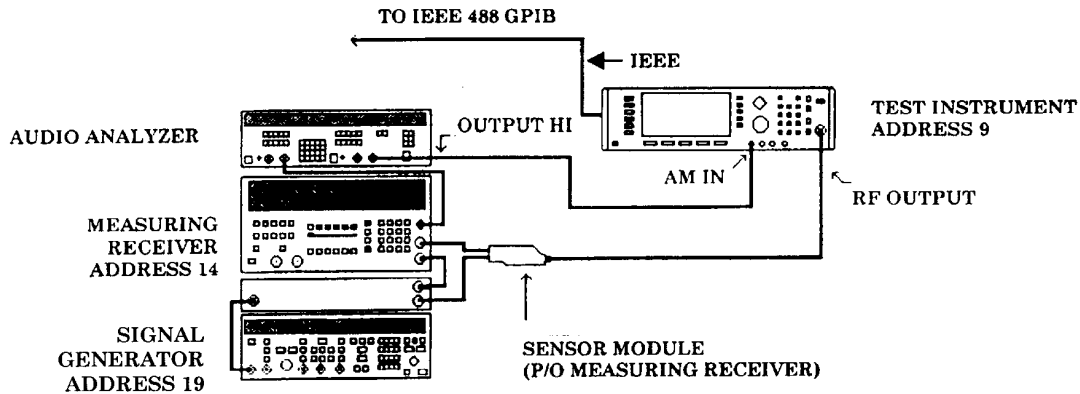

Figure 5. Amplitude modulation hookup.
(1) Connect equipment as shown in figure 5.